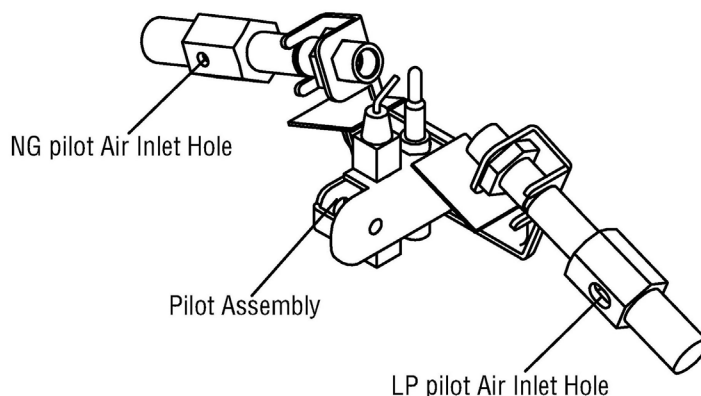

Figure 25 - Pilot Inlet Air Hole
3. Blow air through the ports/slots and holes in the burner. Also clean the pilot assembly. A yellow tip on the pilot flame indicates dust and dirt in the pilot assembly. There is a small pilot air inlet hole about two inches from where the pilot flame comes out of the pilot assembly (see Figure 25). With the unit off, lightly blow air through the air inlet hole. You may blow through a drinking straw if compressed air is not available.